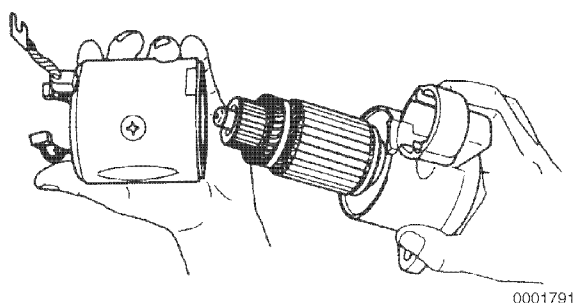

Figure 8-32
6. Install the field assembly over the armature assembly and align to the pinion housing (**Figure 8-32**).